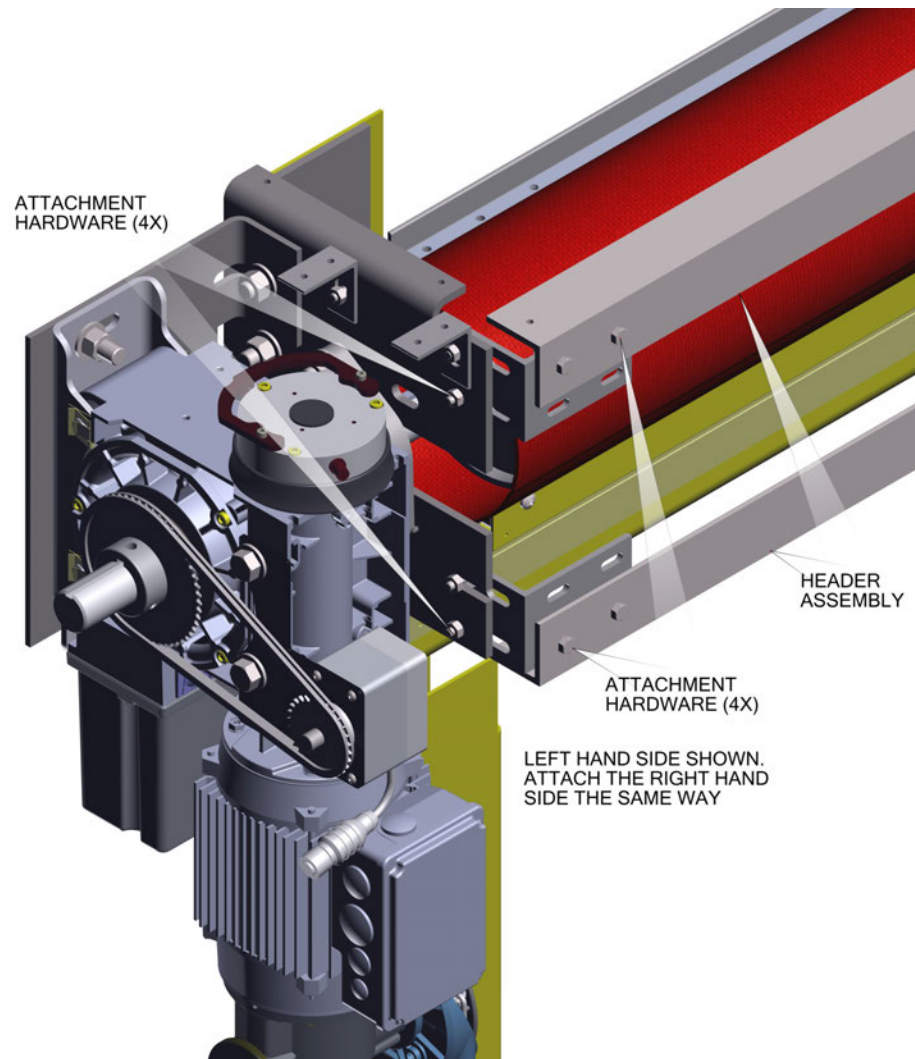

Figure 11
- Align the header assemblies and install using the attachment hardware from the hardware bag. See Figures 11 and 12.